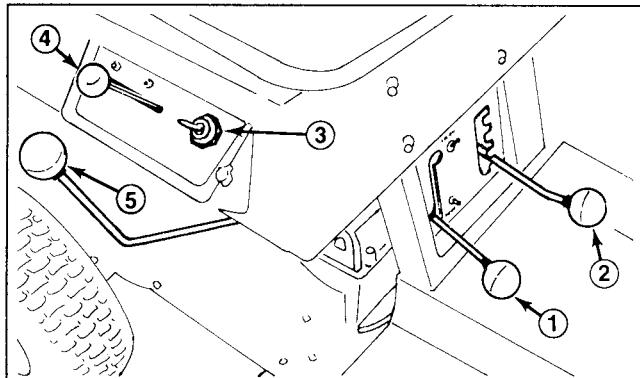

Figure 5
Gear Shift (Fig. 5) — The transmission has five forward speeds, neutral, and reverse. The gear shift lever is located on right side of operator. An interlock switch, which prevents engine from being started when transmission is in gear, is mounted on top of transmission.
Blade Control (Fig. 5) — Blade control engages and disengages the cutter blade. An interlock switch prevents engine from starting when control is in the ENGAGE position. Engine will start when control is in the DISENGAGE position only.
Throttle Control (Fig. 5) — Throttle control connects to and operates carburetor-mounted throttle and choke. Control has three positions: SLOW, FAST and CHOKE.
Height-of-Cut (Fig. 5) — Height-of-cut control varies the cutting height from approx. 1-1/2 to 3-1/2 inches in five increments.
2. Move gear shift into neutral and blade control into DISENGAGE detent (Fig. 5).
3. Move throttle control to CHOKE position (Fig. 5) when starting a cold engine. However, a hot engine
4. Rotate ignition key (Fig. 5) to START position. When engine starts, release the key and move throttle between FAST and SLOW if choke was used for starting. Operate the rider with throttle control in FAST (full throttle) position for best performance.
1. Move blade control into DISENGAGE detent (Fig. 5).
2. Move height-of-cut control (Fig. 5) into desired setting.